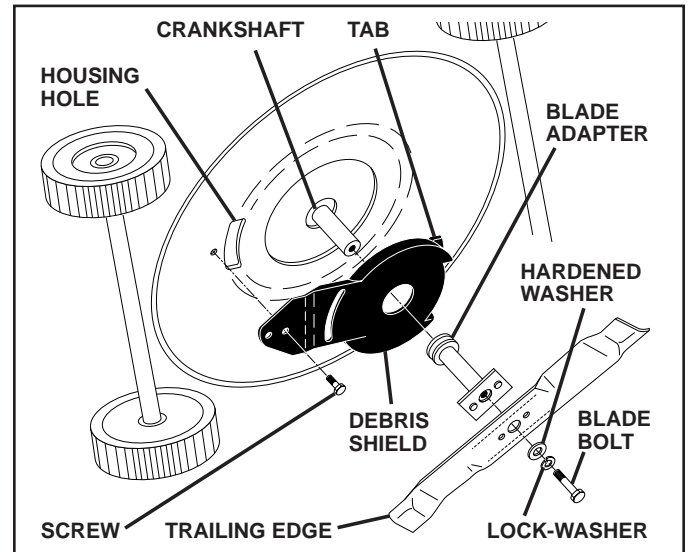

FIG. 18
6. Remove screw securing debris shield. Note that the debris shield has a tab which fits into a gap in the housing (See Fig. 18).
4. Position blade on the blade adapter aligning the two (2) holes in the blade with the raised lugs on the adapter.
5. Be sure the trailing edge of blade (opposite sharp edge) is up toward the engine as shown (See Fig. 18).